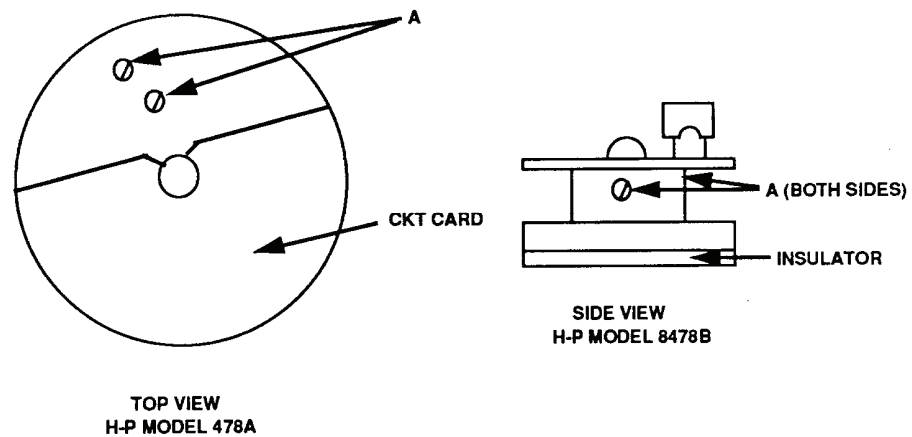

Figure 7. Hewlett-Packard, Models 478A and 8478B only - adjustment locations.
Use extreme care when making A adjustments (fig. 7) in the cw direction. Over adjustment will damage TI.
- (1) Set power meter No. 1 power switch to **OFF**.
- (2) Adjust power meter No. 1 **COARSE ZERO** control to midrange (five turns from fully ccw) and set **RANGE** switch to **COARSE ZERO**.
- (3) Remove three screws on thermistor mount.
- (4) Slide cover to expose thermistor and circuit card. Set power meter No. 1 power switch to **ON**.
- (5) Adjust A adjustments (fig. 7) ccw to adjust down scale and cw to adjust up scale.
Both A adjustments (fig. 7) should be made as equal as possible.